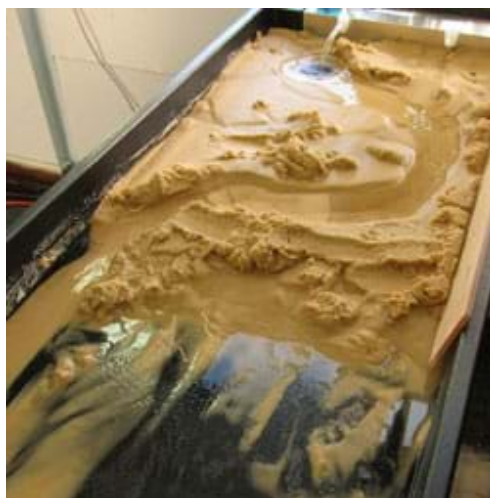

Figure 1. An erosion table filled with fine sand.
1. **Erosion table with hydraulic bench** for academic purposes, such as the Hydro-Geology Stream table – Hubbard (product #Z06394M) for \$1,330 from Nasco at <https://www.enasco.com/p/Z06394M>; the recommended table dimensions are 26-in wide x 66-in long x 6-in deep; the author performed the activity using this erosion table, shown in Figure 1.